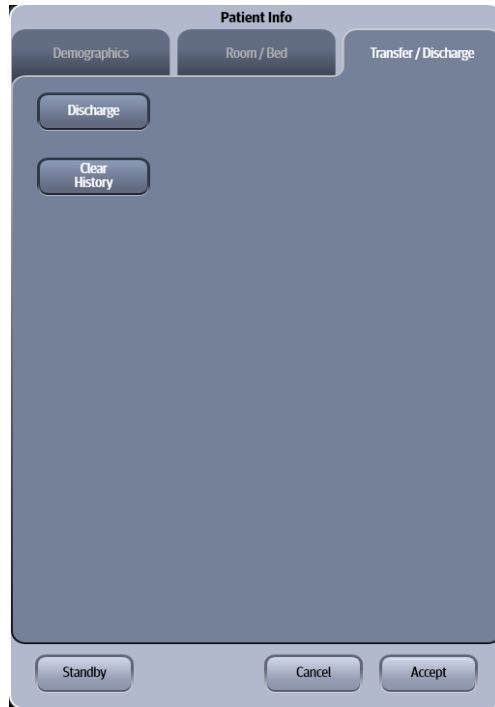

FIGURE 6-3 Example Patient Info (Transfer/Discharge Tab)
2. Select the **Transfer/Discharge** tab (as shown in FIGURE 6-3).